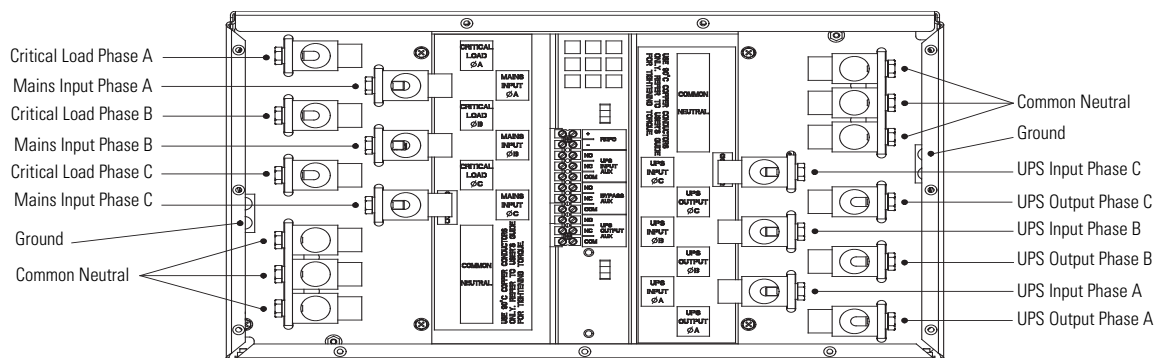

Figure 13. Power Terminal Locations
6. Route the mains input, neutral, and ground wiring from the utility source to the MBM mains input, neutral, and ground terminals. See Figure 13 for terminal locations.
10. Route the UPS input, neutral, and ground wiring from the MBM to the UPS input, neutral, and ground terminals on the BladeUPS Bar terminal block. See Figure 13 for terminal locations.
14. Route the UPS output wiring from the MBM to the UPS output terminals on the BladeUPS Bar terminal block. See Figure 13 for terminal locations.
16. Route the critical load output, neutral, and ground wiring from the MBM critical load terminals to the critical load. See Figure 13 for terminal locations.